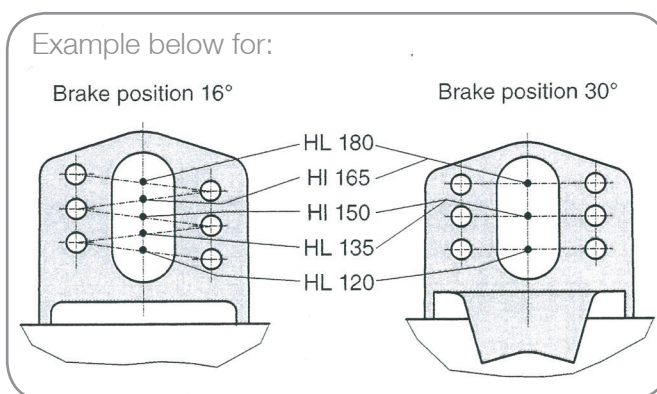

Figure 2
- ⦿ Ensure the booster is fitted to the **correct hole in the booster bracket** – the one that **corresponds to the required hole in the slack adjuster**. See drawing for more details (Fig. 2).